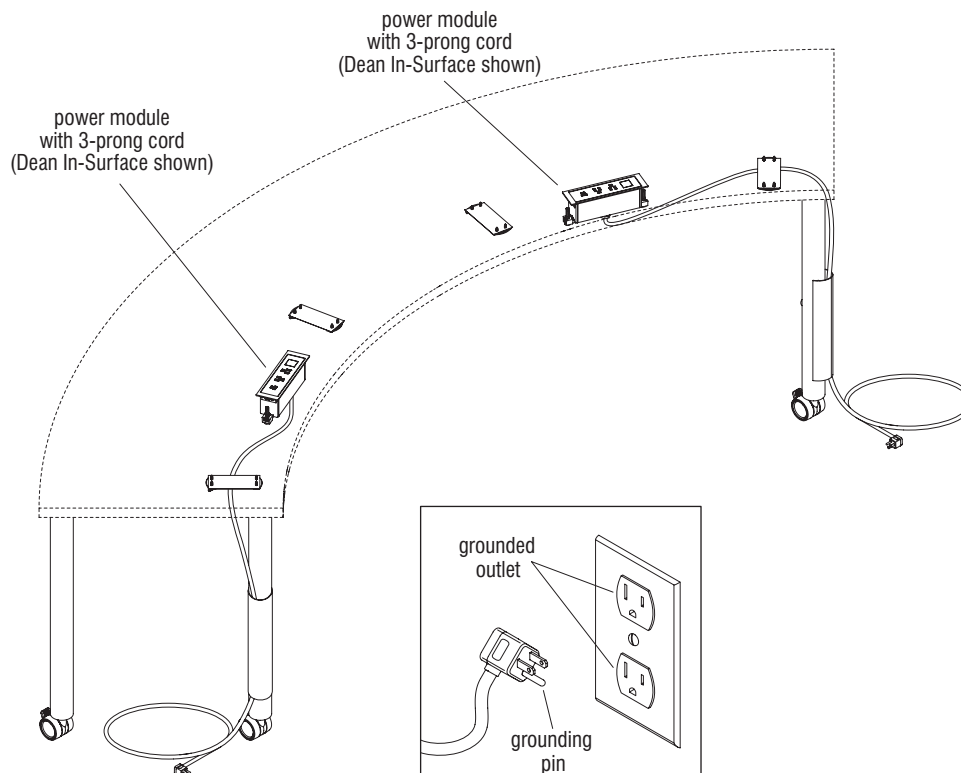

Figure 2
1. Place tables in final installation location and lock the two front, user side casters in place on each table if present (Figure 2).